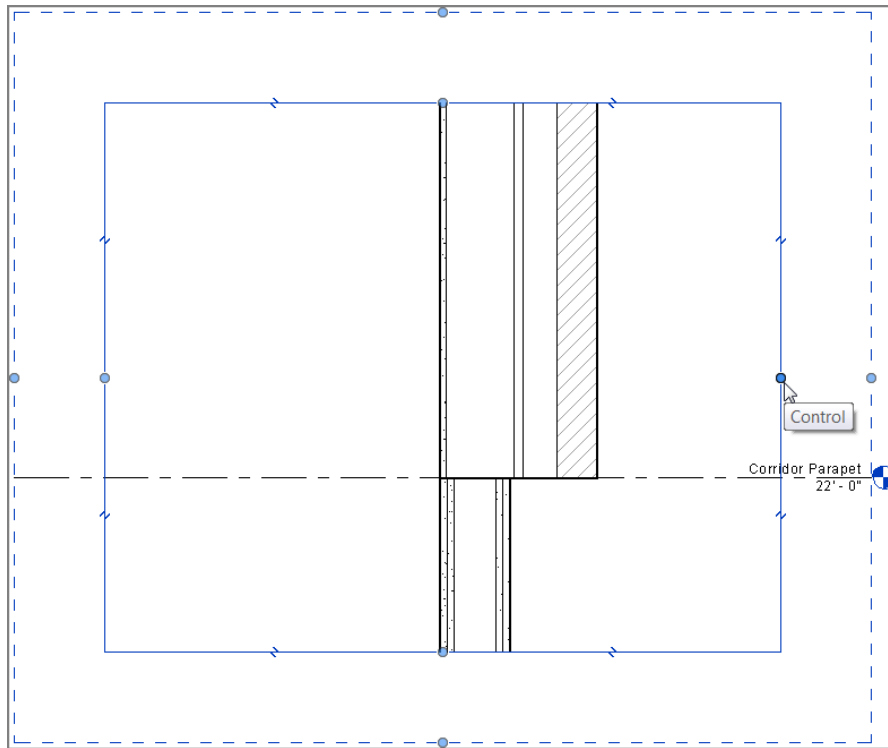

FIGURE 3.65: Selecting the crop region
11. With the section open, select the crop region, as shown in Figure 3.65.